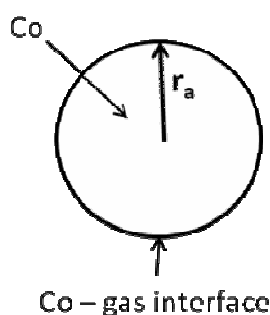

Fig. 1
Catalyst (e.g. cobalt) is often used in the form of solid nanoparticles that have a spherical structure (fig.1). The reduction in size of the catalyst increases catalytic activity significantly. The unwanted side-reaction however involves the oxidation of the catalyst:
- 2.2 Calculate the equilibrium constant for reaction (1) when the cobalt catalyst is dispersed in the form of spherical particles (Fig. 1) of radius:
(b) spherical nanoparticles with  $r_a = 1$  nm (Fig. 1).